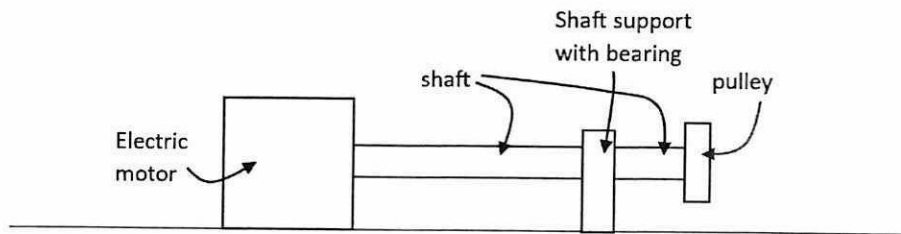

Figure Q4.2
- (c) **Figure Q4.2** shows an electric motor (power, $P = 4$ kW and rotation, $N = 200$ rpm) turning a shaft with a diameter, d . If the maximum allowable shear stress is $\tau_{\max} = 200$ MPa, determine the value of the shaft diameter, d .